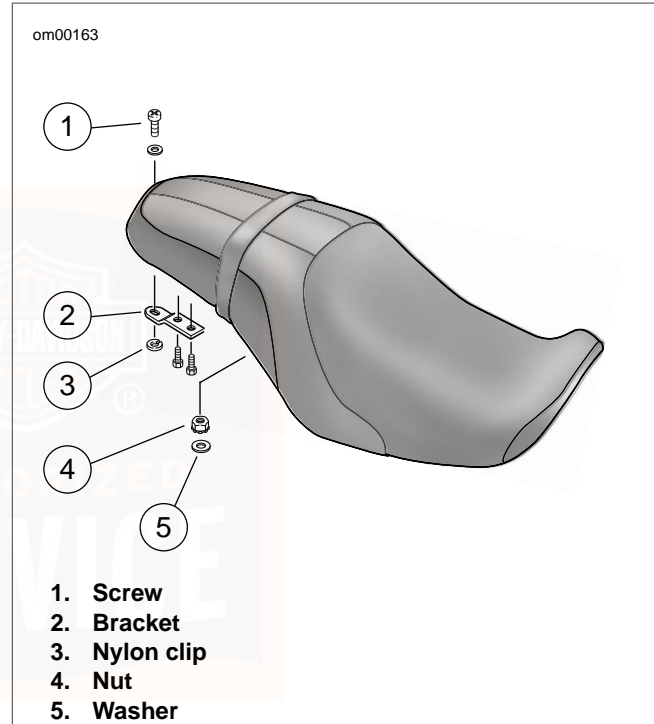

Figure 58. Seat: Dyna Models
1. See Figure 58. Remove screw and detach seat mounting bracket from top of rear fender.
3. See Figure 58. Push seat forward until rear fender seat retention nut is centered in hole of mounting bracket.